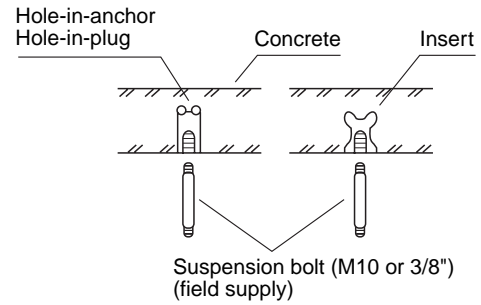

Fig. 3-83
- Insert suspension bolts as shown in Fig. 3-83 or
- (2) Screw in the suspension bolts allowing them to protrude from the ceiling as shown in Fig. 3-83. (Cut the ceiling material, if necessary.)